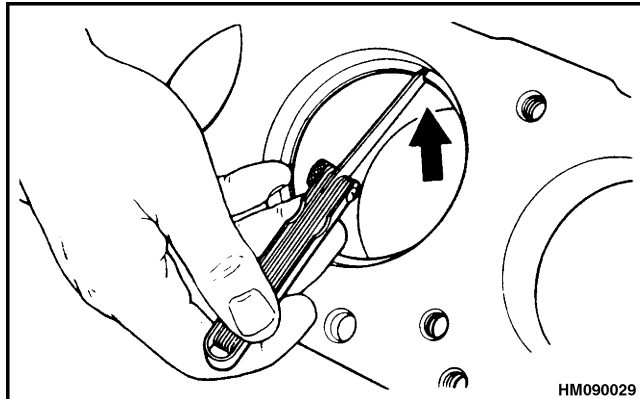

Figure 48. Piston Ring End Clearance Check
2. Measure the end clearance of each piston ring as shown in Figure 48. The end clearances are shown in the Engine Specifications section. Install the piston ring into the cylinder where it will be used. Use a thickness gauge to measure the amount of end clearance. Replace the piston if the clearances are greater than the specifications.